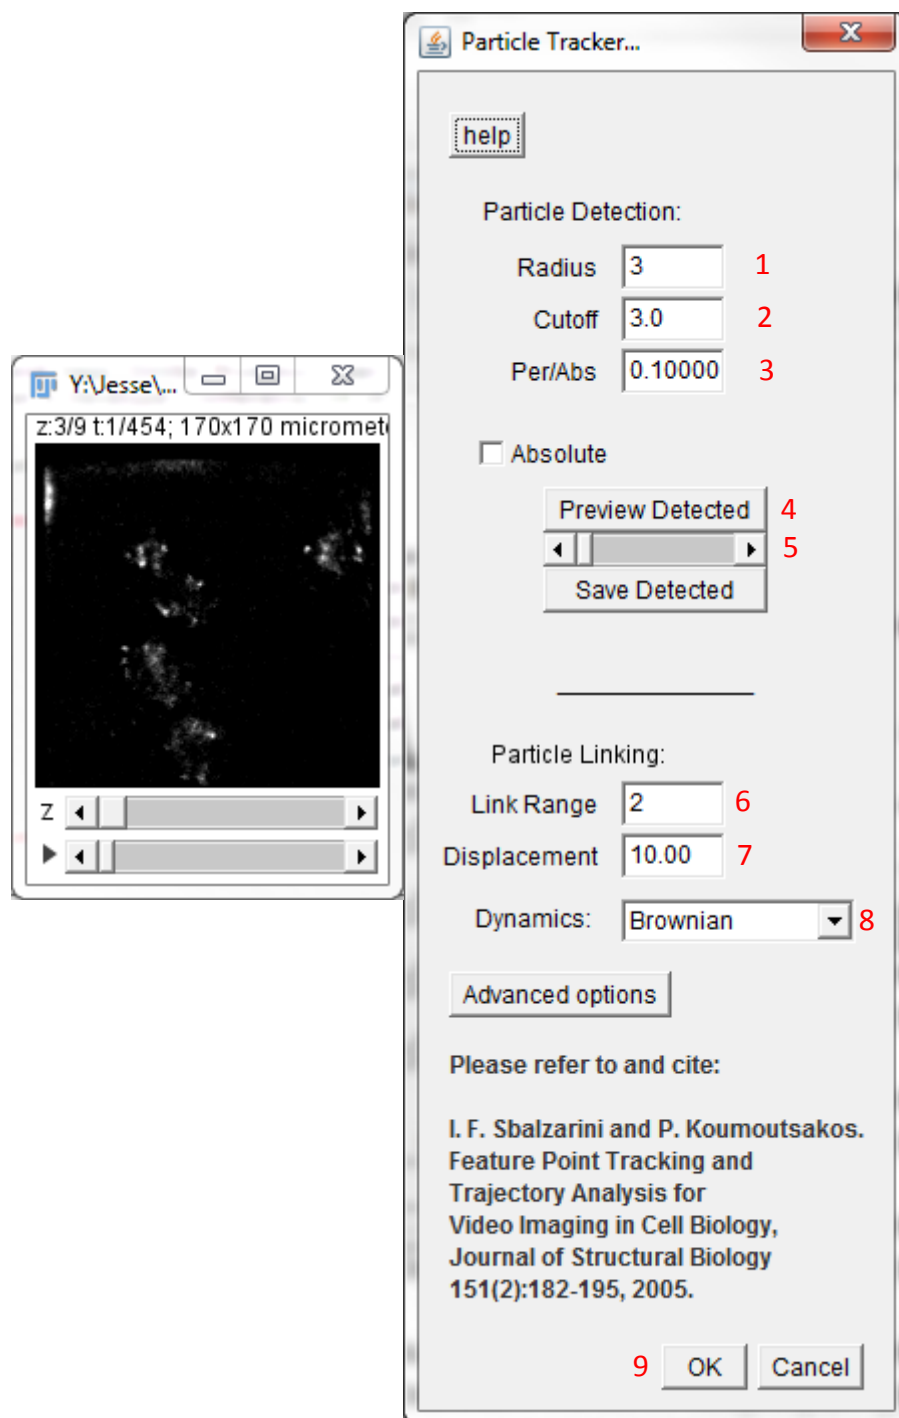

Figure 10. Optimizing particle tracking parameters using the Mosaic plugin in Fiji/ImageJ.
Users will generally want to optimize the particle tracking parameters in Fiji using test data sets before performing automated tracking and analysis in Matlab. To do this, first open the test (.h5) data sets in Fiji/ImageJ, as described previously. Then click on Plugins → Mosaic → Particle tracker 2D/3D. You should see a window like that shown in Figure 10.
3. Particle radius. This corresponds to parameter 1 that you optimized in the mosaic window (see Figure 10), as described in the previous section.
4. Fit score. This corresponds to parameter 2 in Figure 10.
5. Threshold %. This corresponds to parameter 3 in Figure 10.
6. Link range. This corresponds to parameter 6 in Figure 10.
7. Max Displacement. This corresponds to parameter 7 in Figure 10. However, in order to prevent confusion with magnification, this parameter is in terms of nanometers (not pixels). Thus, for instance, if it was determined that 4 pixels was sufficient in Figure 10, and the data was acquired using a 100x objective, the value should be $4 \times 120\text{nm} = 480\text{nm}$.